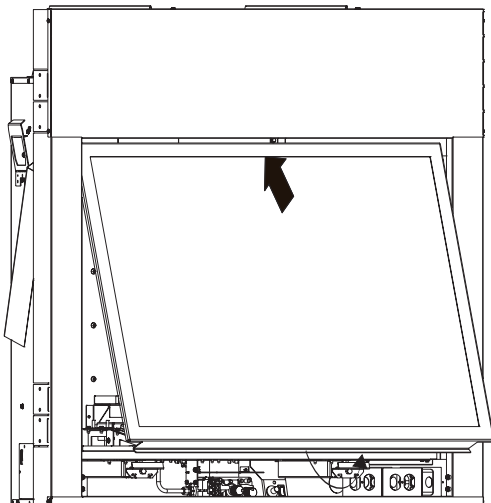

Figure 19
3. Pull glass out at the bottom, then lift up and off. **See Figure 19.**
8. Reinstall the glass frame and safety barrier screen removed in step 3. **See Figure 19.**